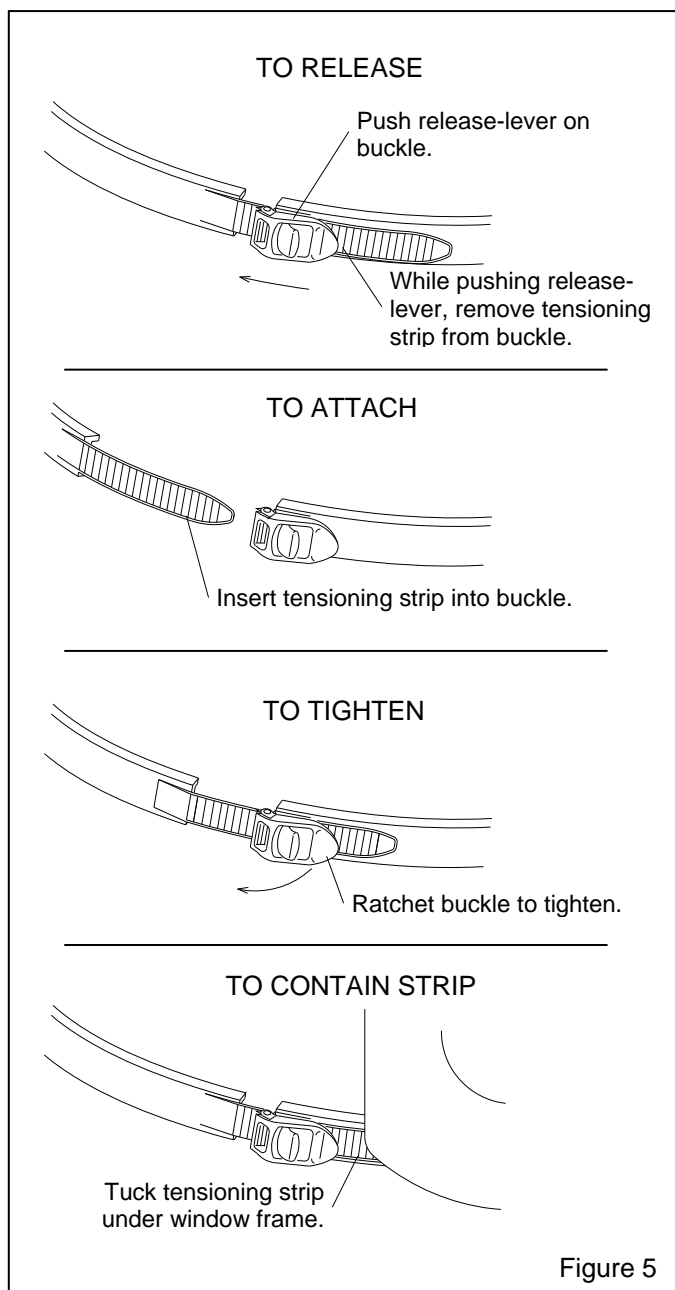

Figure 5
9.4.3 Push the release-lever on the cape attachment buckle as shown in Figure 5. While pushing the lever, pull the tensioning strip out of the buckle, and remove the attachment band.